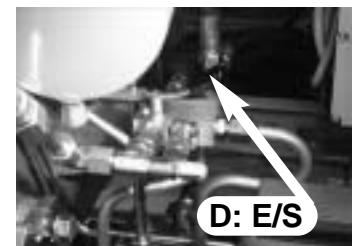

fig. 20b
- Position lever **D** of oil diverter crane-outriggers (⌘ - E/S) on **E/S**. Fig. 20b
- Position lever **D** of oil diverter crane-outriggers (☺ - **E/S**) on **E/S**. Fig. 20b